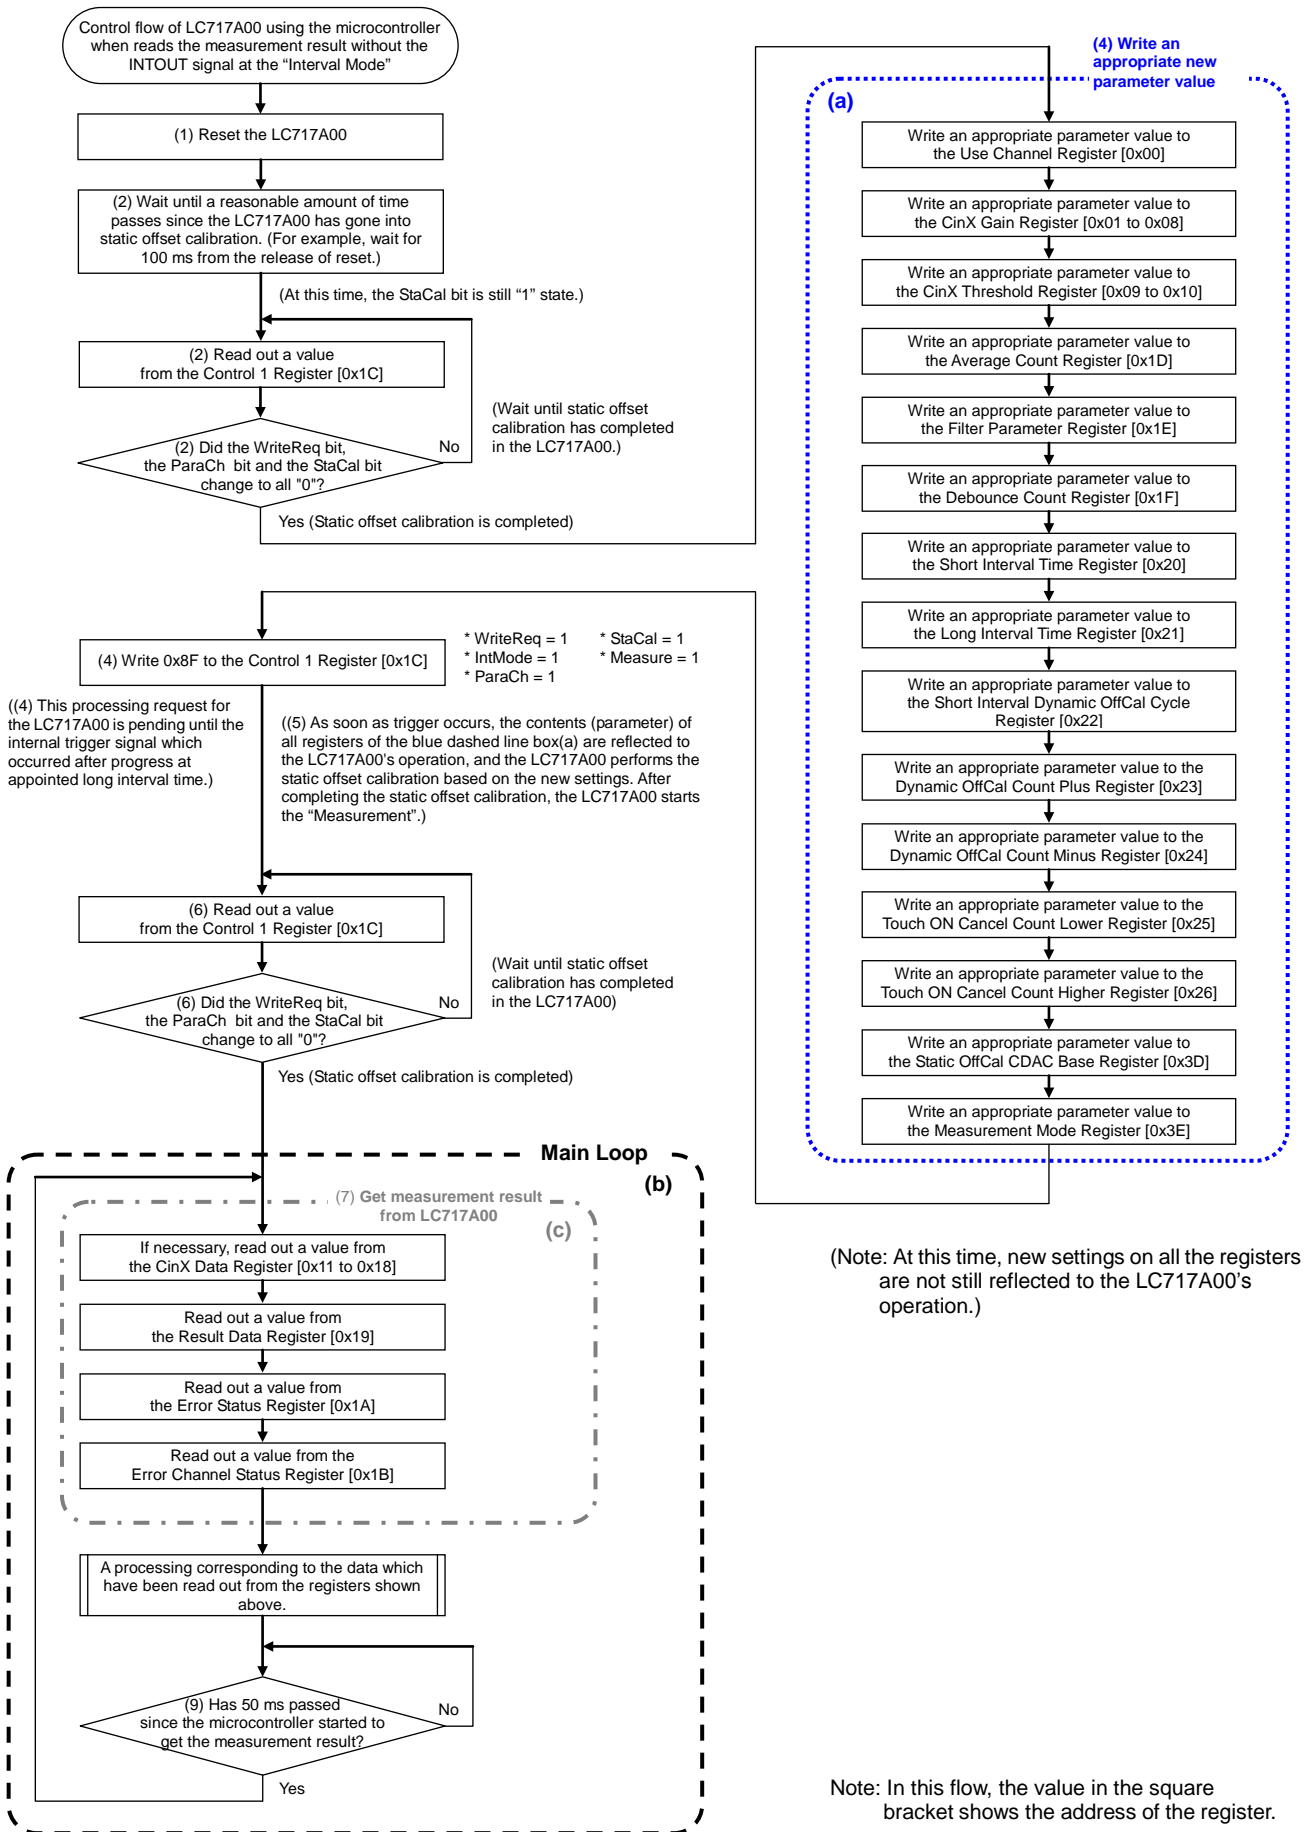

Fig.4-4 Control flow example when the microcontroller reads the measurement result without the INTOUT signal in the "Interval Mode"
- (1) The microcontroller resets the LC717A00 by controlling the nRST signal line via a GPIO port.
- (2) After controlling the nRST signal line, the microcontroller waits until a reasonable amount of time passes since the LC717A00 has gone into static offset calibration. For example, the microcontroller waits for 100 ms from the release of reset. Afterwards, the microcontroller reads the Control 1 Register (Address=0x1C), and waits until all of the WriteReq bit, the ParaCh bit and the StaCal bit are “0”.
- (3) The microcontroller writes an appropriate parameter value to each register of the LC717A00 over the I2C (or SPI) bus. (For more information about registers the microcontroller may write a parameter to, refer to the inside of the blue dashed line box(a) on the control flow diagram shown in Fig.4-4)
- (4) To reflect the new settings to the LC717A00's operation and to make the LC717A00 perform static offset calibration and measurement, the microcontroller writes 0x8F to the Control 1 Register (Address=0x1C) over the I2C (or SPI) bus. This processing request for the LC717A00 is pending until the internal trigger signal which occurred after progress at appointed long interval time.
- (5) As soon as trigger occurred, the new settings on all the registers are reflected to the LC717A00's operation. (That is to say, the LC717A00 operates according to the new settings.)
- (6) The LC717A00 performs the static offset calibration based on the new settings. The microcontroller checks that all of the WriteReq bit, the ParaCh bit and the StaCal bit are zero in order to wait for the completion of the static offset calibration in the LC717A00.
- (7) After completing the static offset calibration, the LC717A00 starts measurement.
- (8) The LC717A00 completes the measurement. After the time which is named "Interval time" passed since the completion of the measurement, the LC717A00 restarts next measurement automatically.
- (9) Without detecting the assertion of the INTOUT signal, the microcontroller reads measurement results periodically (For example, at 50 ms intervals) from from the Result Data Register (Address=0x19) and so on.
- (10) The LC717A00 repeats the above (8), and the microcontroller repeats the above (9).